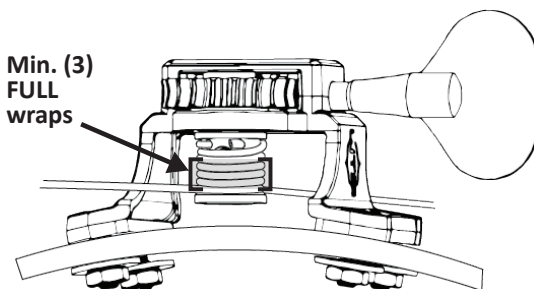

Fig. 6
9. Guide the cable as you wind it to ensure a tight, even wind (**Fig. 6**). Be sure that cable winds over itself in the groove of the winding post, and wraps at least 3 full times around the winding post.